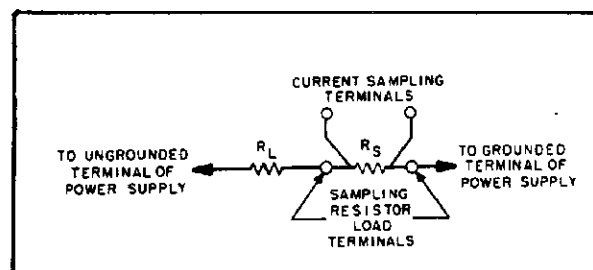

Figure 5-6. Current Sampling Resistor Connections
**5-44** The total resistance of the series combination (load and monitoring resistance) should be equal to  $2\Omega$  so that the supply provides 10A (maximum rated current) at 20V. For all output current measurements, the current sampling (monitoring) resistor must be connected as a four-terminal device in the same manner as a meter shunt would be. The load current is fed to the extremes of the wire leading to the resistor while the monitoring terminals are located as close as possible to the resistance element itself (see Figure 5-6). A current sampling resistor should have low noise, low temperature coefficient (less than  $30\text{ppm}/^\circ\text{C}$ ) and should be used at no more than 5% of its rated power so that its temperature rise will be minimized.